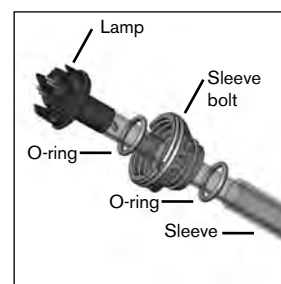

Figure 5
1. Remove first O-ring, sleeve bolt and second O-ring from lamp sleeve (Figure 5).